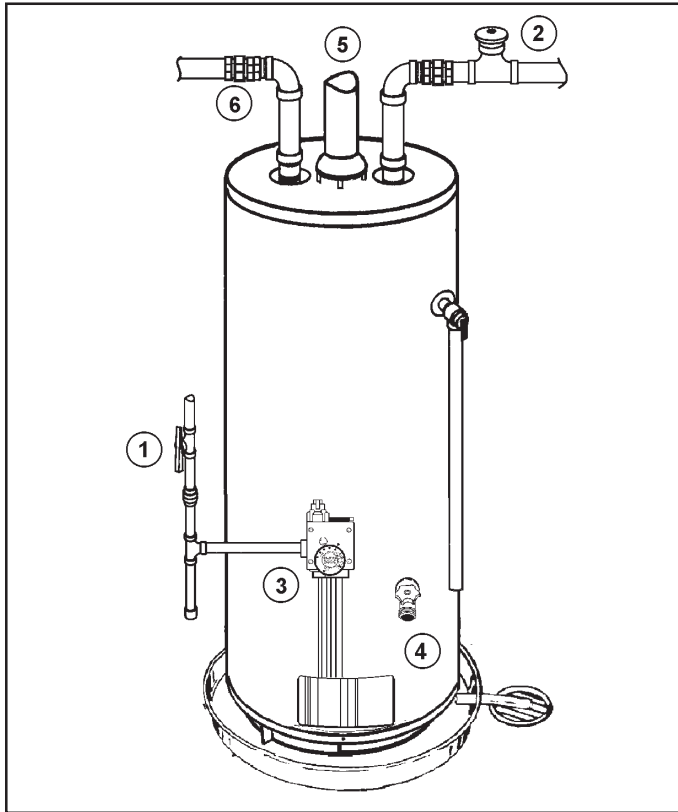

FIGURE 3.
If the main gas line shutoff valve serving all gas appliances is used, also shut "OFF" the gas at each appliance. Leave all gas appliances shut "OFF" until the water heater installation is completed, see Figures 3 and 4.
- ② Turn "OFF" the water supply to the water heater at the water shut off valve or water meter. Some installations require that the water be turned off to the entire house, see Figures 3 and 5.
- ④ Attach a hose to the water heater drain valve and put the other end in a floor drain or outdoors. Open the water heater drain valve. Open a nearby hot water faucet which will relieve pressure in the water heater and speed draining. The water passing out of the drain valve may be extremely hot. To avoid being scalded, make sure all connections are tight and that the water flow is directed away from any person, see Figures 3 and 6.